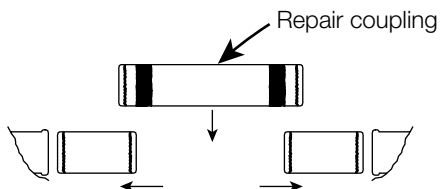

Figure 21
1. Install the quarter lengths and position the half length for installation after loosely placing the repair couplings on the pipe. (Figure 21)